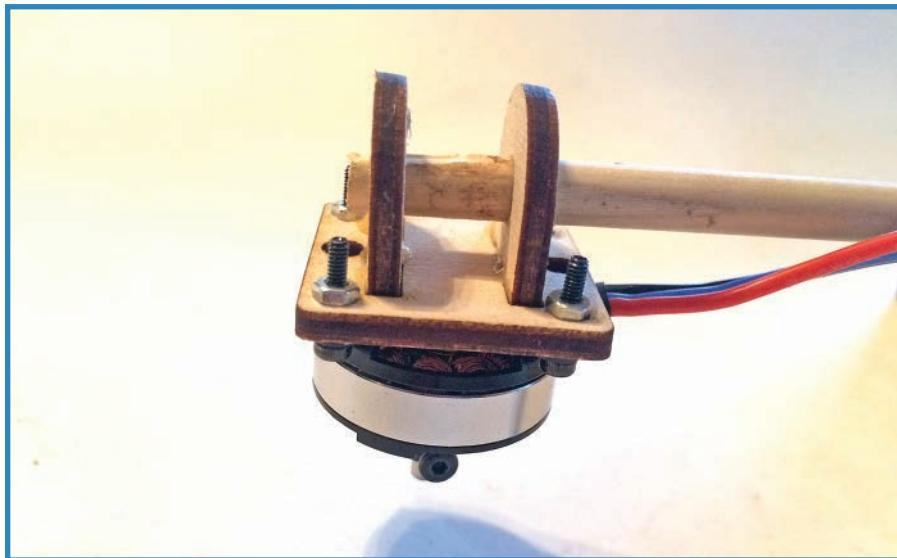

FIGURE 7.11 Next, install the motors.
6. Attach the motors to the mounting plates using the M2 screws and nuts. You may want to use some sort of thread-locking solution or locknuts to secure the screws. Once the motors are installed, gravity should rotate them so they're facing straight down, as shown in Figure 7.11.